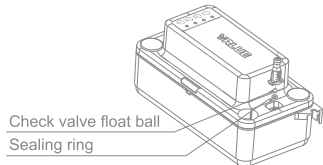

Fig.5
3. Remove the outlet upward (as shown in Figure 5). Use a small flat-head screwdriver to extract the sealing ring from the bottom. Then, invert the check float ball for cleaning. Clean the outlet, sealing ring, and check float ball with water before reassembling.